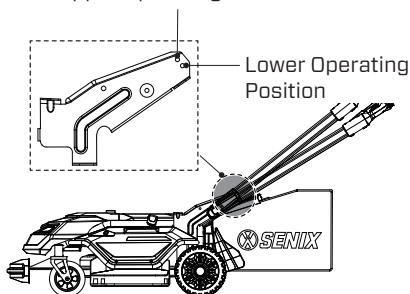

Fig. 1
- The lawn mower is operated through manual hand pushing mode, with self-propel function. The handle is on the MANUAL MODE position. (See figure 1)